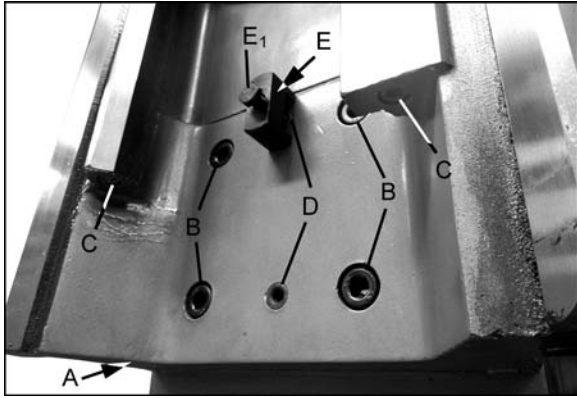

Figure 40 – Gap section
1. To remove the gap section (A, Figure 40), remove four socket head bolts (B) and two socket bolts at the ends of the rails (C).
2. Remove the two tapered alignment pins (D) by placing the provided gap bridge pin driver (E) over them and threading the screw (E₁) down into them, until the pins are loosened enough to be pulled out.